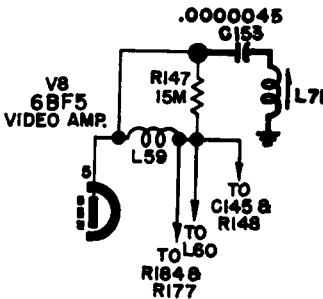

Fig. 22 — Sylvania
**Reducing 4.5-mc sound interference in picture (see Fig. 22).**